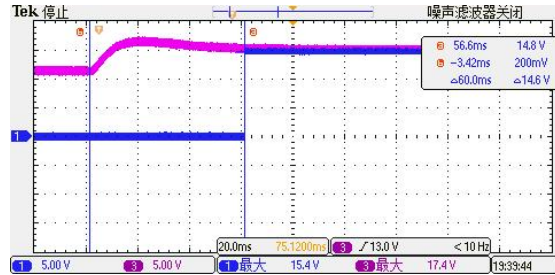

Fig.7 Fault disappears
3. Fault disappears: when the secondary side undervoltage disappears, keep low for up to 60ms, and then restore the high level; as **Fig.7**